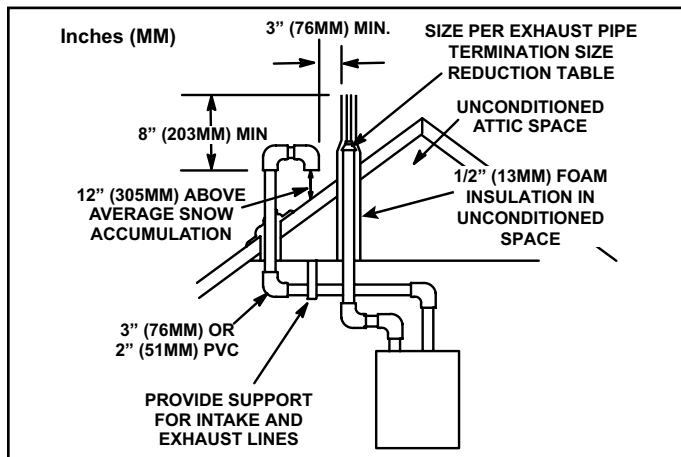

Figure 36. Direct Vent Roof Termination Kit
Intake and exhaust pipes may be routed either horizontally through an outside wall or vertically through the roof. In attic or closet installations, vertical termination through the roof is preferred. Figure 36 through Figure 43 show typical terminations.
3. On roof terminations, the intake piping should terminate straight down using two 90° elbows (see Figure 36).